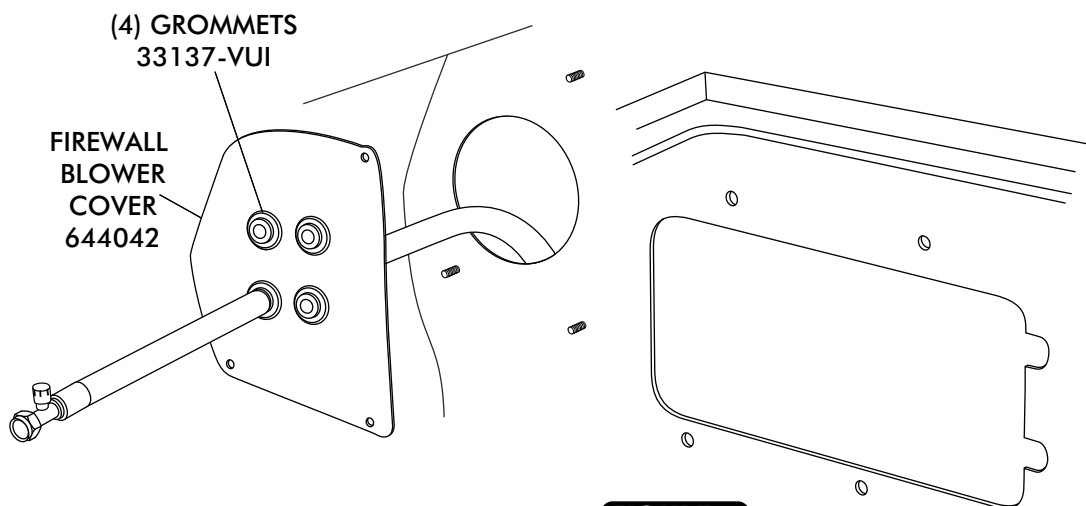

FIGURE 4
- ☐ INSTALL (4) GROMMETS IN FIREWALL BLOWER COVER. SEE FIGURE 4 BELOW